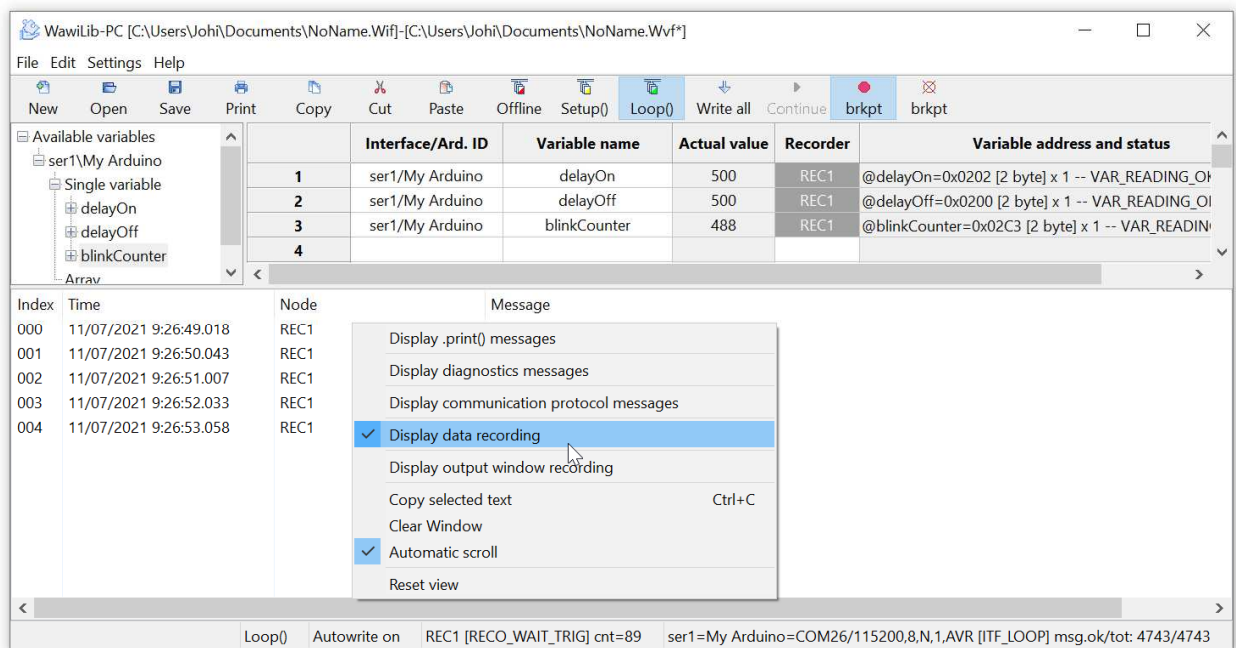

Fig. 7.4. Enable display the recorded data in the output window.
- ✓ Disable all other options ad indicated in Fig. 7.4.: